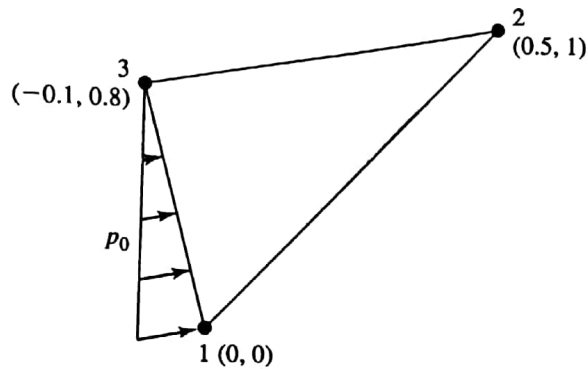

Figure 7 (unit in meter)
7. (15%) Consider a single T3 element shown in Figure 7 (unit in meters). The element is subjected to a linearly varying pressure acting on the normal direction along the edge and a body force from gravity in the negative y direction. Let the acceleration of gravity  $g = 9.8 \text{ m/s}^2$ , the density  $\rho = 1200 \text{ Kg/m}^3$ , the element thickness  $t = 0.12 \text{ m}$ , the maximum of the pressure  $p_0 = 1000 \text{ kN/m}^2$ . Calculate the external force matrix (i.e., equivalent nodal